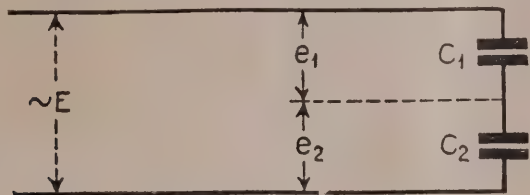

Figure 1
In figure 1 two condensers C_1 and C_2 are connected across an alternating voltage source delivering E volts at a frequency f . First assume that $C_1 = C_2$ then, according to equation (1) the voltages e_1 and e_2 are proportional to the respective impedances or rather *reactances* of C_1 and C_2 . The reactances of C_1 and C_2 are equal since their capacity is equal, therefore in this case $e_1 = e_2$.